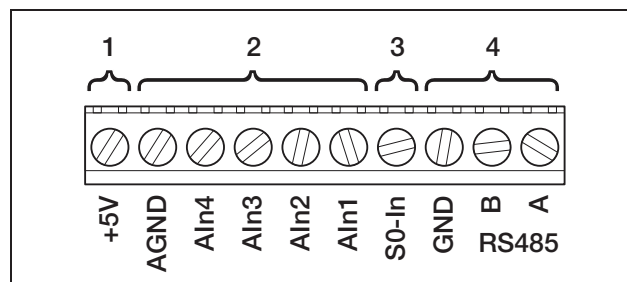

Fig. 56: Cable terminal
- Connect the lines to the terminal according to the terminal assignment (figure 56 and table 7).
Connections for the serial **RS485** interface are found **on the terminal for analogue interfaces (figure 56)**. Using RS485, up to 200 inverters - depending on the inverters used - can be connected, see Table 8. Additional components can be connected to RS485. An additional level converter may be required in some cases. Use a twisted-pair cable for connection, such as LiYCY 2 × 2 × 0.25.
- Connect the lines to the terminal (4 in figure 56) according to the terminal assignment (table 7).